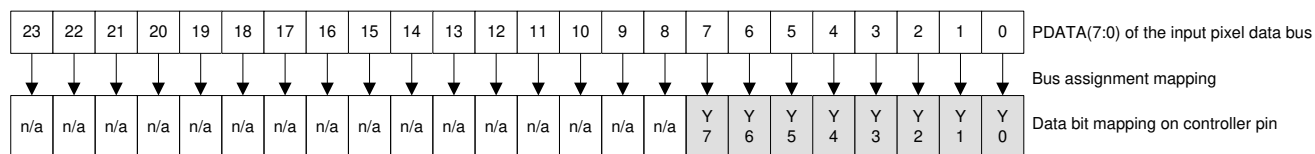

图 6-9. BT.656 Interface Mode Bit Mapping
- (1) Calculate clock jitter (in ns) using this formula: $\text{Jitter} = [1 / f_{\text{clock}} - 5.76 \text{ ns}]$. Clock jitter must maintain setup and hold times. BT.656 data bits must be mapped to the DLPC3470 PDATA bus as shown in 图 6-9 shows BT.656 bus mode YCbCr 4:2:2 source PDATA (23:0) mapping.
- (2) The BT.656 interface accepts 8-bits per color, 4:2:2 YCbCr data encoded per the industry standard through PDATA(7:0) on the active edge of PCLK. See 图 6-9.